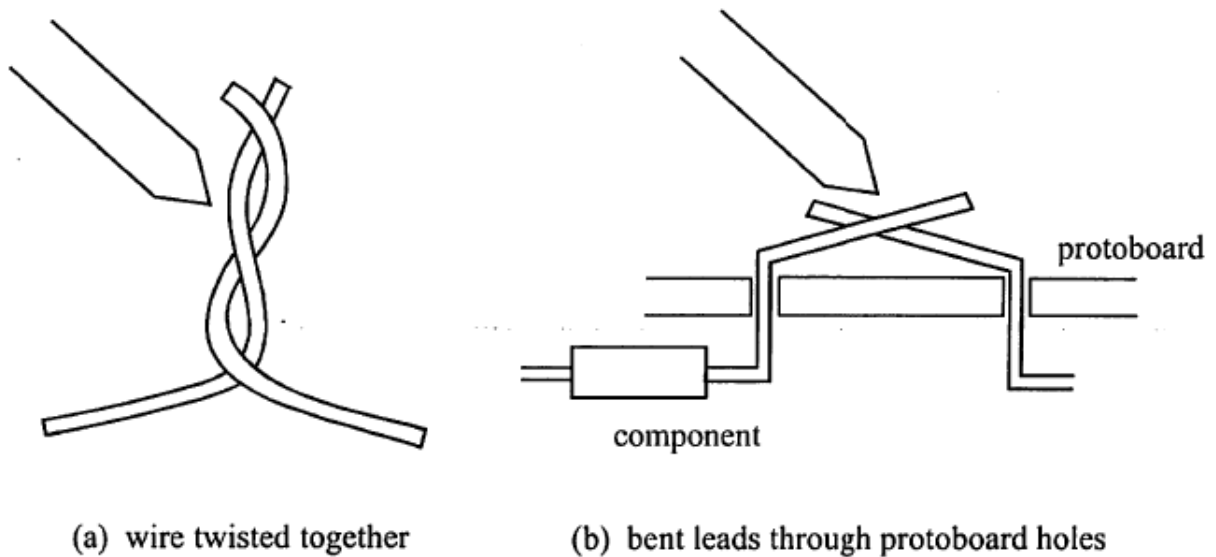

Figure 15.7 Preparing a soldered joint.
3. Make a mechanical contact between elements to be joined, either by bending or twisting, and ensure that they are secure so that they will not move when you apply the iron. Figure 15.7 illustrates two wires twisted together and a component inserted in a protoboard in preparation for soldering.